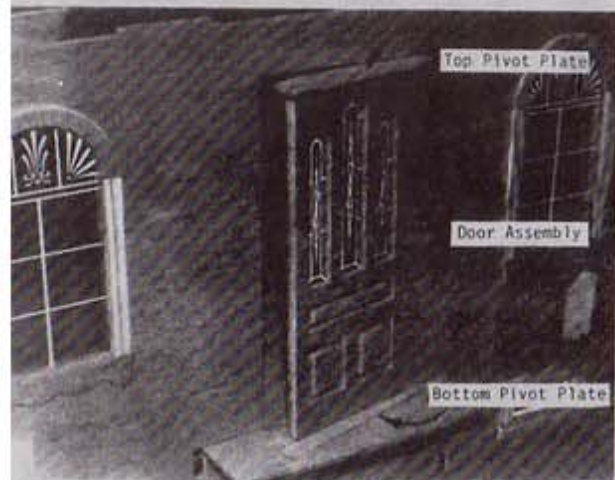

Figure 8
7. Locate Door Assembly (LF-3). Glue in place. Before gluing door assembly in place, put the Pivot Plates on the floor and insert into the doorway to check for proper fit. Sanding may be required for smooth operation. See Figure 8. Cut Universal Trim to fit on the sides and the top of the door opening both inside and out.